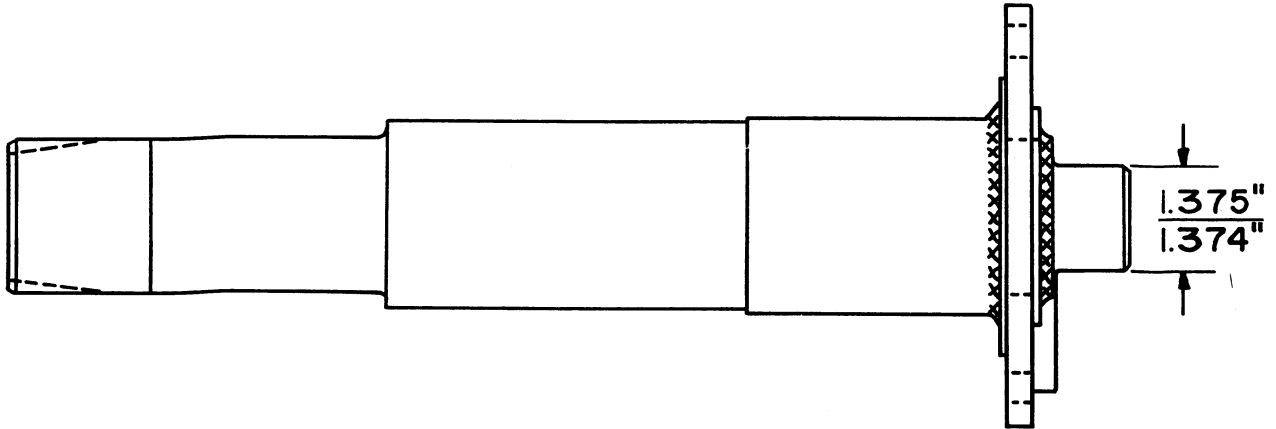

FIGURE 5A-16
1. Check the PTO shaft pilot dimension. The pilot should be 1.374" to 1.375" as shown in Figure 5A-16. If the PTO shaft pilot does not meet the specifications, it should be replaced.